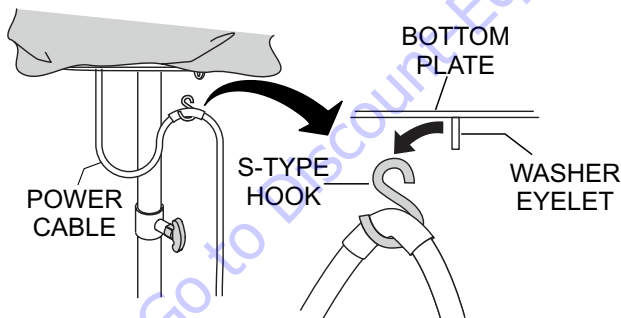

Figure 26. Removing Power Cable
2. Remove the S-type hook (Figure 26) on the AC power cord from the washer-eylet located on the bottom plate of the light assembly.